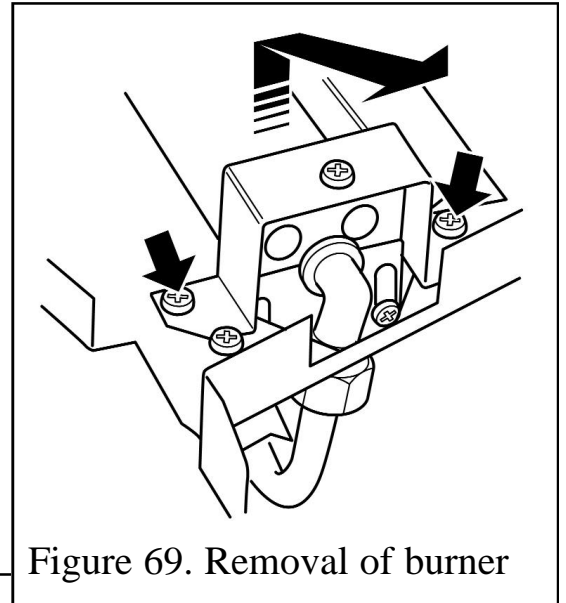

Figure 69. Removal of burner
(See figure 69).
3. Remove the two screws from the burner clamping plate (See figure 69)